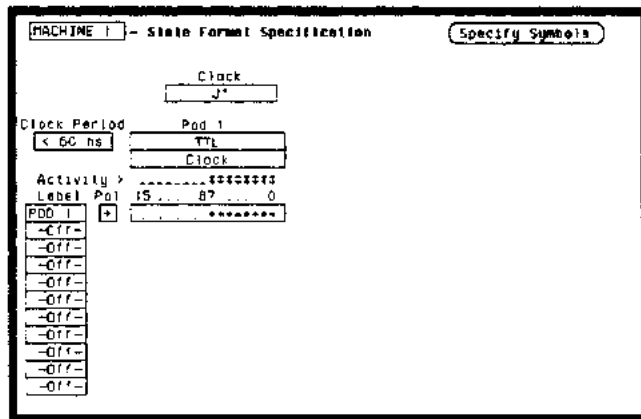

Figure 3-13. Format Specification for Data Test 2
- In the **State Format Specification** assign the **Clock Period** to <60 ns, and assign the rising edge of the J clock to the **Clock** field. Also, assign the lower 8 channels of the pod under test to a label as in figure 3-13.
4. In the **State Format Specification** menu assign the **Clock Period** to **< 60 ns**, and the falling edge of J clock to the **Clock** field. Also, assign the lower 8 channels of the pod under test to a label as in the previous test figure 3-13.